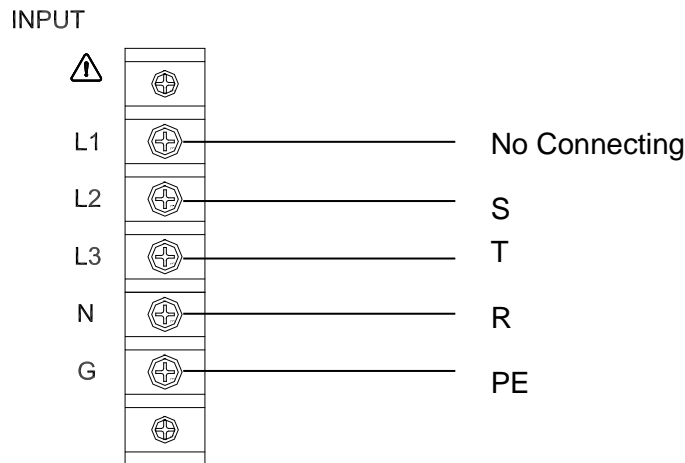

Figure 2-1 220 3~Δ Input Connection
See *Figure 2-1* and do the following things one by one:
2. Screw the power cord to the input terminal blocks of the AC source (see *Figure 2-1*)